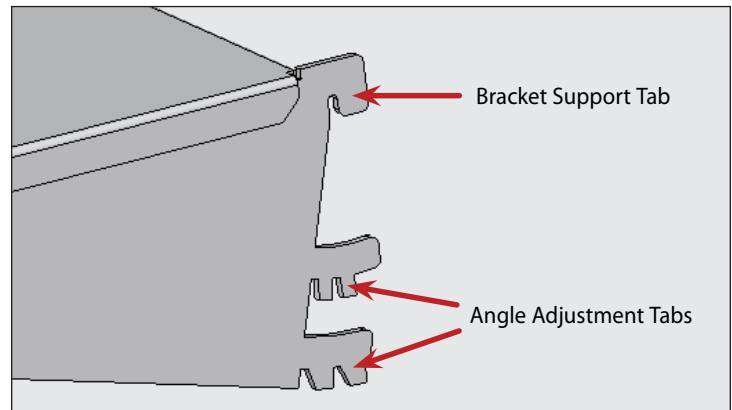

Fig. 2. Cantilever shelf tab identification.
2. Raise the shelf front and hook the shelf bracket support tab into the shelf standard slots. See figs. 2 and 3.